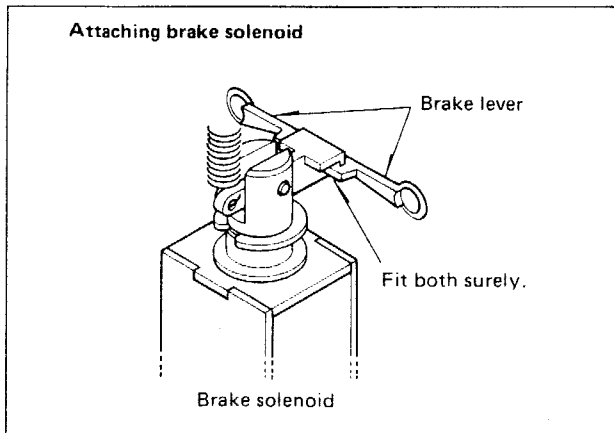

Fig. 2
- c. To remove the brake solenoid, push actuators ① and ② in Photo 12.
- \* Attach the brake solenoid so that it gears into the brake lever surely as shown in Fig. 2.